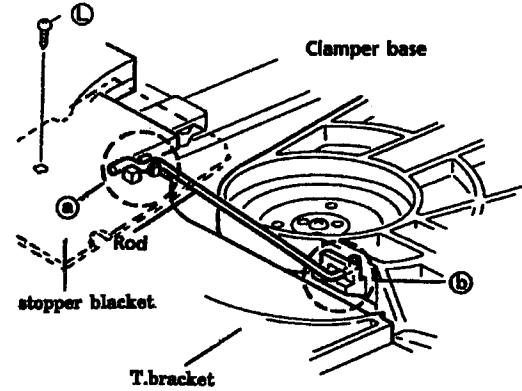

Fig. 20
2. Remove the screw ① holding the stopper bracket.(See Fig.20) ---- (U.S.A and CANADA only)
3. Remove the rod from both ends' hooks which are secured on T.Bracket ② and clamper base③. [See Fig. 20]